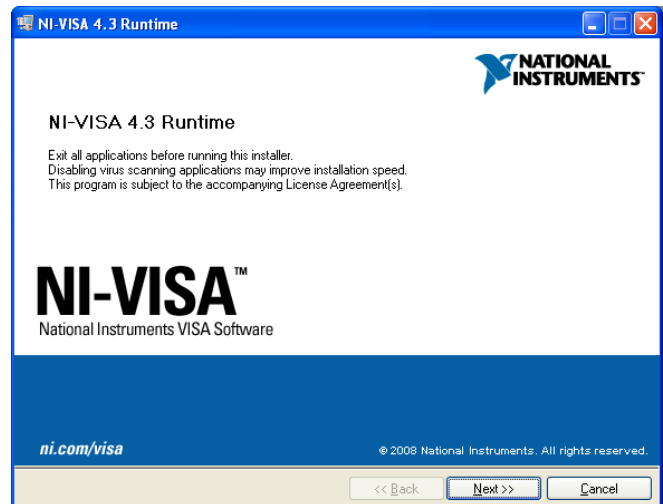

FIGURE 4. NATIONAL INSTRUMENTS RUNTIME ENGINE INSTALLATION WIZARD
3. In the **ISL9519 CONTROL Installation Wizard** window, click through the steps of the wizard to install the ISL9519 software. For most PCs, this installation also automatically downloads the National Instruments Runtime Engine installation wizard. If so, the **NI_VISA 4.3 Runtime** installation window opens (Figure 4).